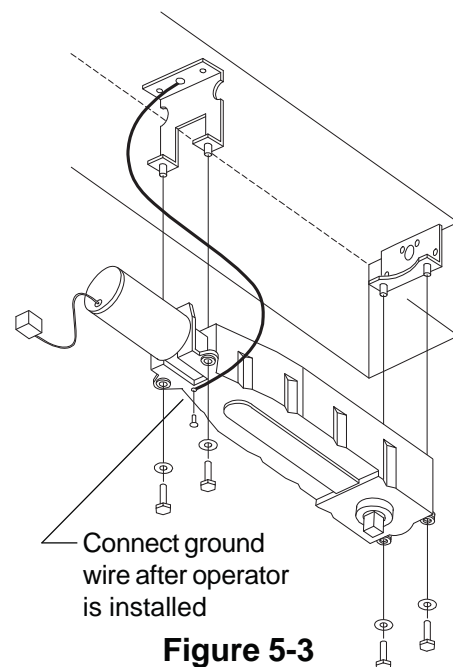

Figure 5-3
- 5.4. Line up the four mounting holes on the operator with the four mounting studs on the operator brackets (Figure 5-3). Make sure that the operator cable (with 6-pin connector) is hanging down freely and push the operator up onto the mounting studs. Make sure cables are not pinched when operator is installed. (The mounting studs fit snugly into the grommets, and firm pressure may be required to get the operator into position.)
- 5.5. Secure the operator to the header using four 5/16-18 hex head screws and washers (Figure 5-3). Tighten the screws until they make contact with the mounting studs on the operator brackets.
- 5.6. Connect the other end of the green ground wire to the small hole in the bottom of the operator (Figure 5-3).